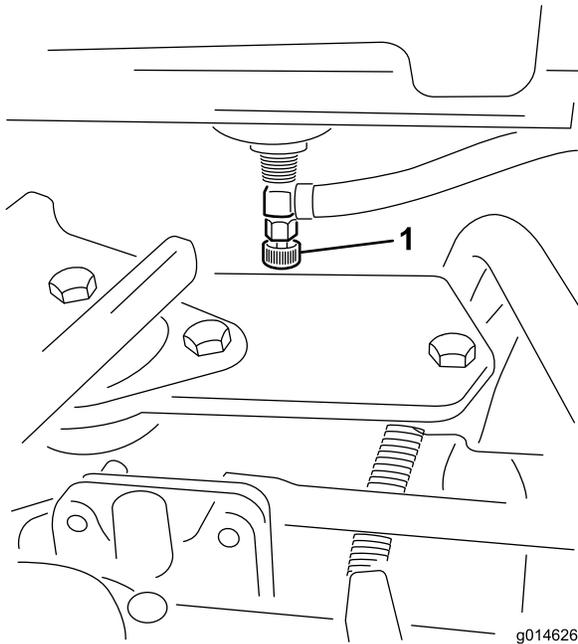

Figure 49
1. Close the fuel shut off valve (Figure 49) below the fuel tank.